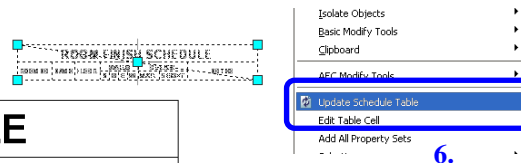

Figure 36
7. The table is updated. *Figure 36*